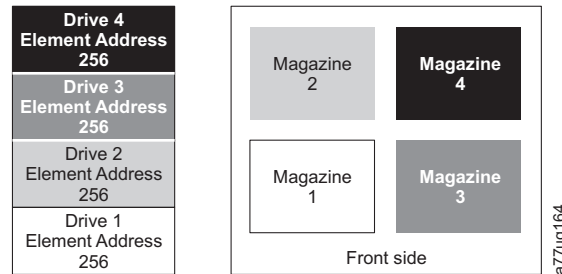

Figure 17. Configuration of a four - partition system
- Logical Library 1: Slot1 through 23 4096 (0x1000) through 4118 (0x1016) as shown in Figure 17 on page 30
When configured with four logical partitions, the Element Address assignments are as follows: DTE assignments are shown in Figure 17.